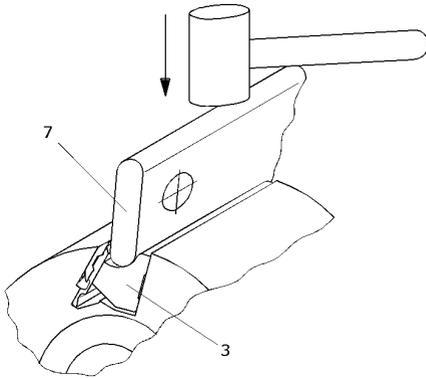

Fig.2
2. Place the SINUS cutterhead in a position, in order the centrifugal wedge (3) can be loosened by the knife changer (7) according to Fig. 2.
3. Loosen the centrifugal wedge with a strike on the knife changer (see Fig. 2).
2. Place the cutterhead in a position, in order the centrifugal wedge (3) can be loosened by the knife changer (7) according to Fig. 2.